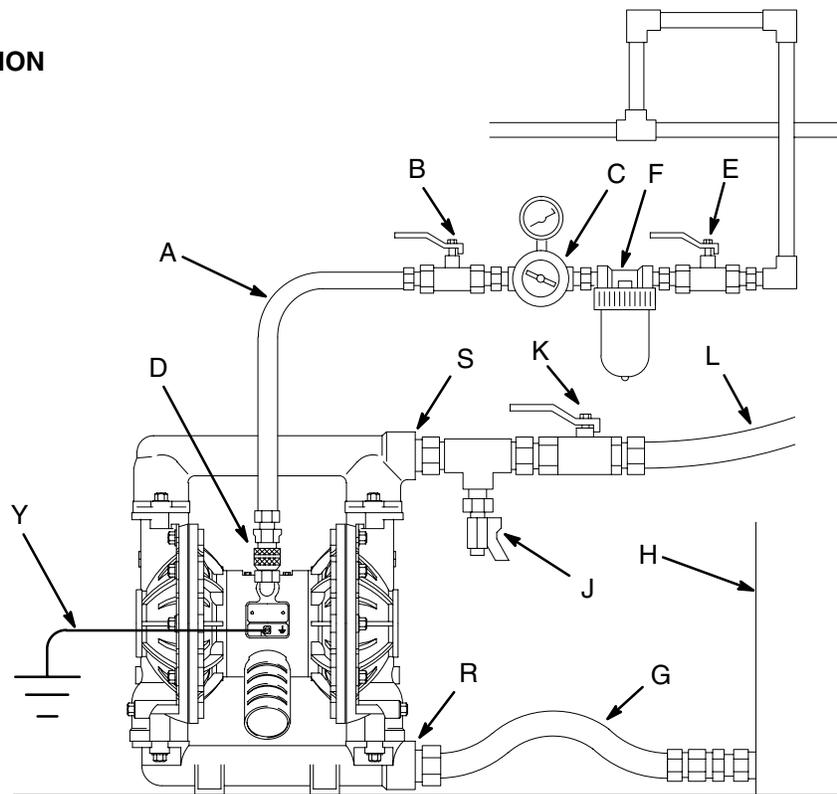
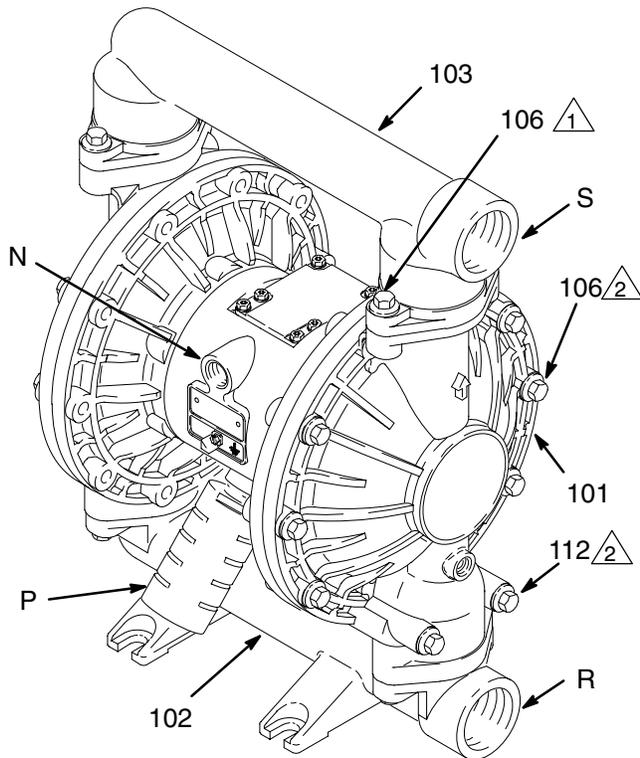

Fig. 2
Fig. 3 **Aluminum Model Shown** 03263B
- The Typical Installation shown in Fig. 2 is only a guide for selecting and installing system components. Contact your Graco distributor for assistance in planning a system to suit your needs.
- Lift the pump by grasping the outlet manifold (1) securely. See Fig. 3 on page 7.
A bleed-type master air valve (B) is required in your system to relieve air trapped between this valve and the pump. Trapped air can cause the pump to cycle unexpectedly, which could result in serious injury, including splashing in the eyes or on the skin, injury from moving parts, or contamination from hazardous fluids. See Fig. 2.
1. Install the air line accessories as shown in Fig. 2. Mount these accessories on the wall or on a bracket. Be sure the air line supplying the accessories is grounded.
- a. Install an air regulator (C) and gauge to control the fluid pressure. The fluid outlet pressure will be the same as the setting of the air regulator.
- b. Locate one bleed-type master air valve (B) close to the pump and use it to relieve trapped air. See the **WARNING** above. Locate the other master air valve (E) upstream from all air line accessories and use it to isolate them during cleaning and repair.
- c. The air line filter (F) removes harmful dirt and moisture from the compressed air supply.
2. Install a grounded, flexible air hose (A) between the accessories and the 1/2 npt(f) pump air inlet (N). See Fig. 3. Use a minimum 1/2" (13 mm) ID air hose. Screw an air line quick disconnect coupler (D) onto the end of the air hose (A), and screw the mating fitting into the pump air inlet snugly. Do not connect the coupler (D) to the fitting until you are ready to operate the pump.
A fluid drain valve (J) is required to relieve pressure in the hose if it is plugged. The drain valve reduces the risk of serious injury, including splashing in the eyes or on the skin, or contamination from hazardous fluids when relieving pressure. Install the valve close to the pump fluid outlet. See Fig. 2.
1. Use grounded fluid hoses (L). The pump fluid outlet (S) is 1–1/2" npt(f). Screw the fluid fitting into the pump outlet securely.
2. Install a fluid drain valve (J) near the fluid outlet. See the **WARNING** above.
3. Install a shutoff valve (K) in the fluid outlet line.
If your pump has Teflon® seals in the manifolds or if it has Teflon® diaphragms, retorque the manifold bolts (106) and fluid cover bolts (106 & 112) according to the torque notes in Fig. 3 on page 7.
The pump is shipped with the fluid inlet (R) and outlet (S) ports facing the same direction. See Fig. 3. To change the orientation of the inlet and/or outlet port:
1. Remove the screws (106) holding the inlet (102) and/or outlet (103) manifold to the covers (101).
2. Reverse the manifold and reattach. Install the screws, and torque according to the torque notes in Fig. 3.
4. Place the end of the fluid hose (L) into an appropriate container.
5. Close the fluid drain valve (J). See Fig. 2.
6. Close the pump air regulator (C). Open all bleed-type master air valves (B, E).
8. Slowly open the air regulator (C) until the pump starts to cycle. Allow the pump to cycle slowly until all air is pushed out of the lines and the pump is primed.